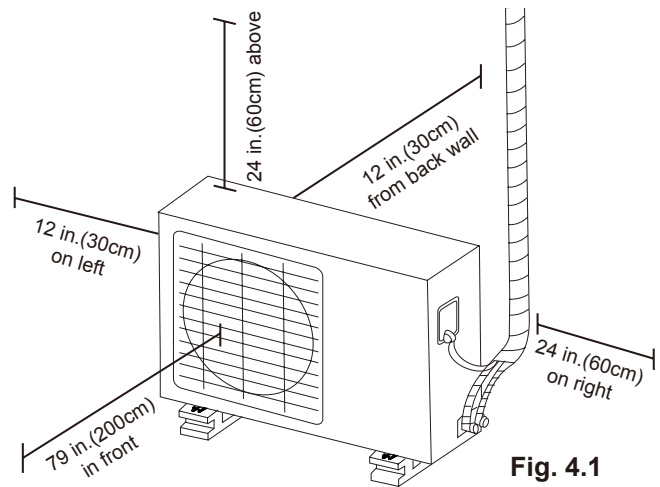

Fig. 4.1
- ☑ Meets all spatial requirements shown in “Installation Space Requirements” (Fig. 4.1)